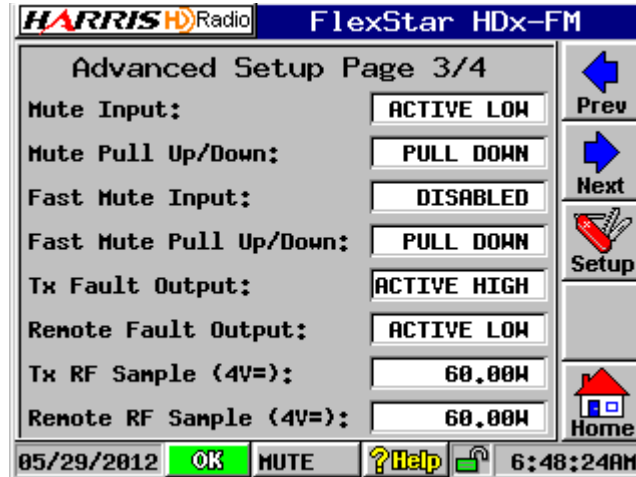

Figure 1-6 .Mute Setup Screen
**STEP 5** To set the mute logic, goto Setup> More Setup> NEXT> NEXT> ADVANCED SETUP 3/4. Change the "Mute Input" to ACTIVE LOW and the "Mute Pull Up/Down" to PULL DOWN. See Figure 1-6